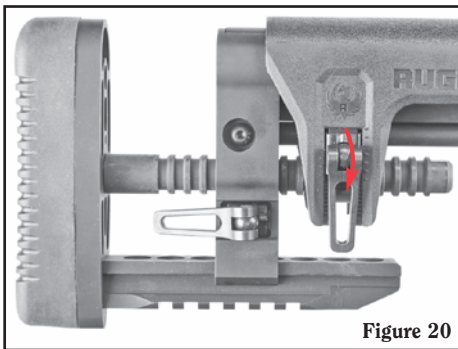

Figure 20
4. Lock the cam lever (see Figure 20).
1. Make sure both cam levers are locked (see Figure 20, p. 27).